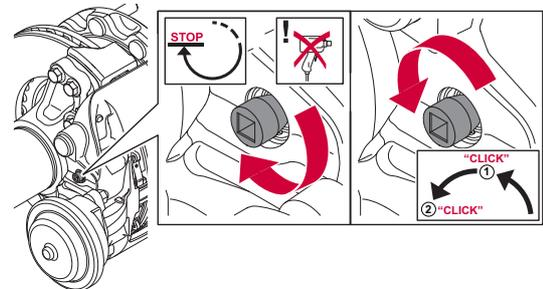

Figure 9.1. Initial brake pad setting
- Then turn the reset shaft anti-clockwise by 2 clicks, see figure 9.1.